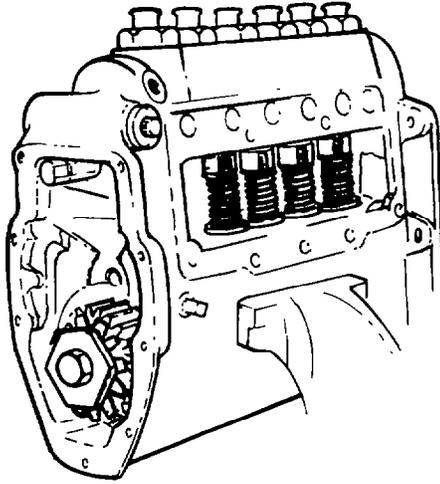

Fig. 91 — Pump Mounted in Vice
- Secure the pump in an upright position by clamping the housing in a soft jawed vice (see fig. 91).